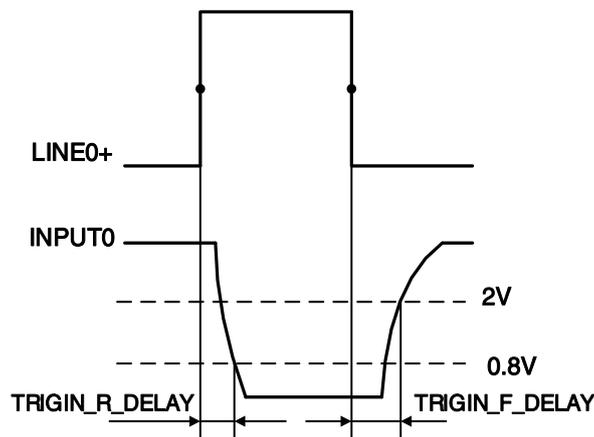

Figure 7-11 Parameter of opto-isolated input circuit
- Rising edge delay: <math>< 50\mu\text{s}</math> ( $0^\circ\text{C}\sim 45^\circ\text{C}</math>), parameter description as shown in Figure 7-11$
- Falling edge delay: <math>< 50\mu\text{s}</math> ( $0^\circ\text{C}\sim 45^\circ\text{C}</math>), parameter description as shown in Figure 7-11$